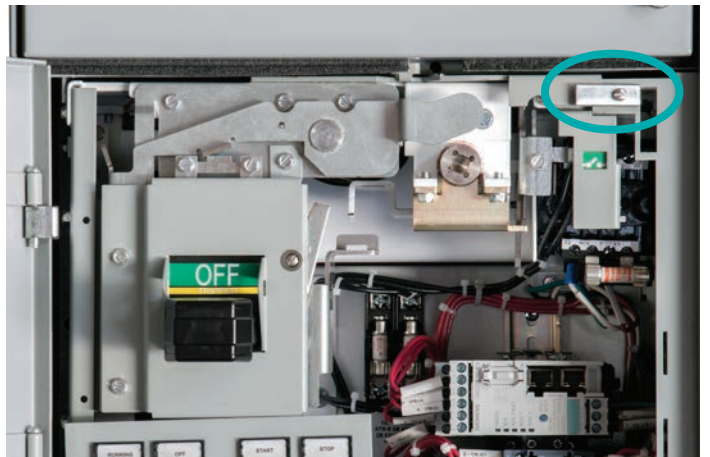

Figure 9: Racking lever lock bar in correctly installed position
- 7e. Engage the racking lever lock bar in the upper right corner of the unit. Adjust it so that it locks the racking lever in the RACKED position and tighten down with a flat-head screwdriver (latch shown in correctly installed position in Figure 9).